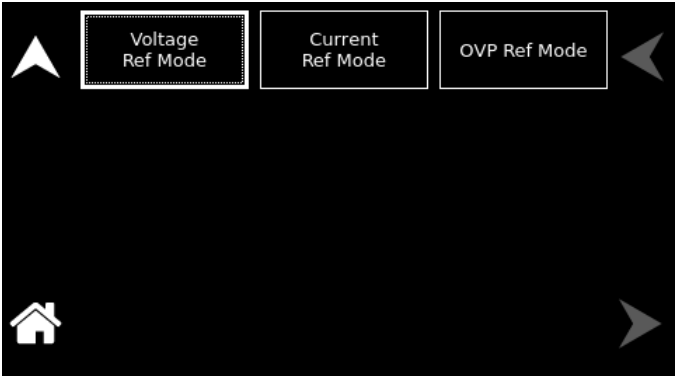
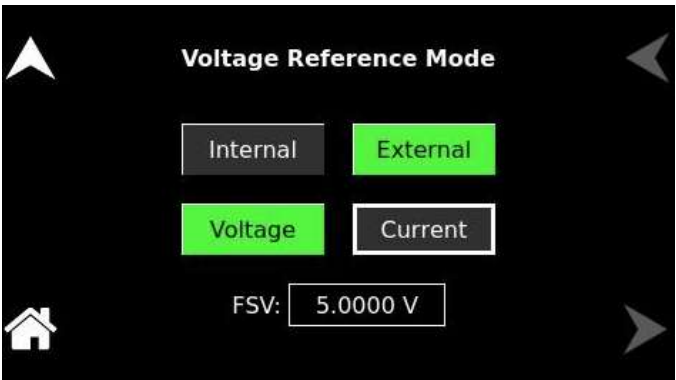
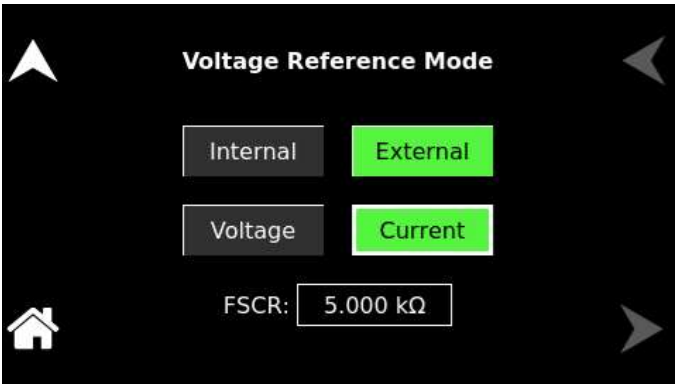
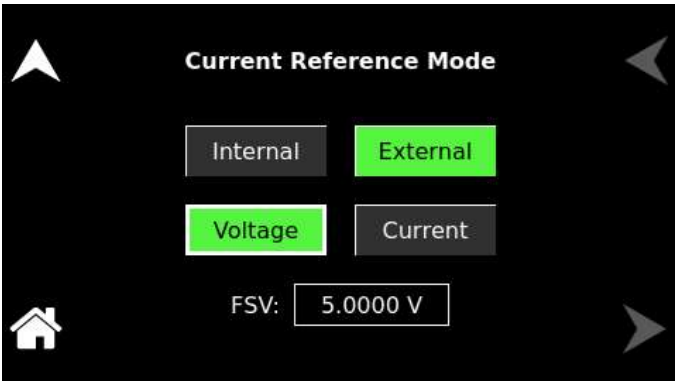

Figure 9-184. Configure Analog Mode Settings
Figure 9-185. Voltage Reference Mode
Figure 9-188. Voltage Reference Mode – Resistive
Figure 9-189. Current Reference Mode
Sets parameter values and controls operation of the Analog Programming interface. Refer to Figure 9-184.
- **Voltage Ref Mode** : Configures the Voltage Reference Mode, refer to Figure 9-184. When the Voltage Reference Mode is set to External, the Voltage setting field on the Dashboard screen and the 'Voltage' option in the Output Program screen will be disabled, and these Voltage fields will display as 'EXT'. Refer to Figure 9-185 to Figure 9-188.
- **Current Ref Mode:** Configures the Current Reference Mode, refer to Figure 9-184. When the Current Reference Mode is set to External, the Current setting field on the Dashboard screen and the 'Current' option in the Output Program screen will be disabled, and these Current fields will display as 'EXT'. Refer to Figure 9-189 and Figure 9-190.